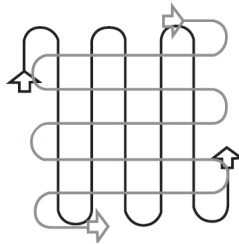

Fig. 12
6. Till in slight overlapping rows. The most effective pattern for tilling soils is moving the product up and down in vertical lines, then move the product in horizontal lines from left to right (Fig. 12). This will keep the rows even and ensures that all the ground is tilled without missing any spots.